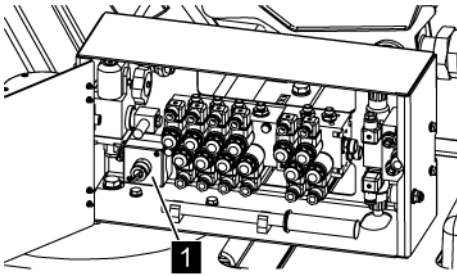

Fig. 188: Key switch
11. After service mode, set the key switch (Fig. 188/1) to the "0" position.